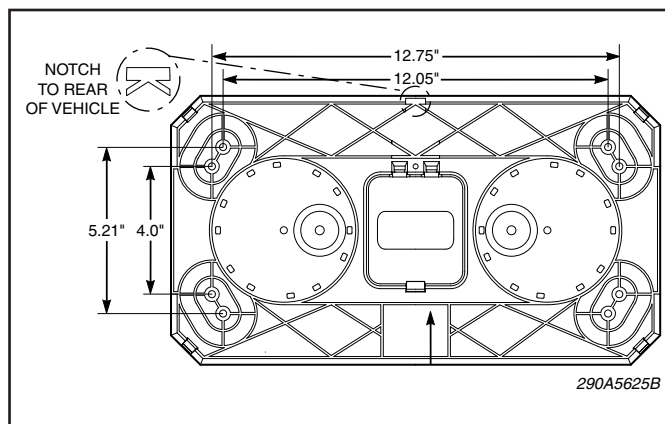

Figure 1.
Install with notch to the rear of the vehicle (see figure 1).
1. Select a relatively flat and level position on the mounting surface. See figure 1. There are two sets of mounting holes. Pattern A matches the pattern found on the Halogen and Strobe Highlighter models. Pattern B is an alternate set of holes, closer to the corners for greater stability. Select the pattern most appropriate for your installation and scribe four drill position marks on the mounting surface. The wire routing hole can be located beneath the wire exit. If the wires will be routed down, scribe a drill position mark for wire routing hole on the mounting surface at the desired location. A channel is provided to run the wires to the back of the unit, if that suits the installation.